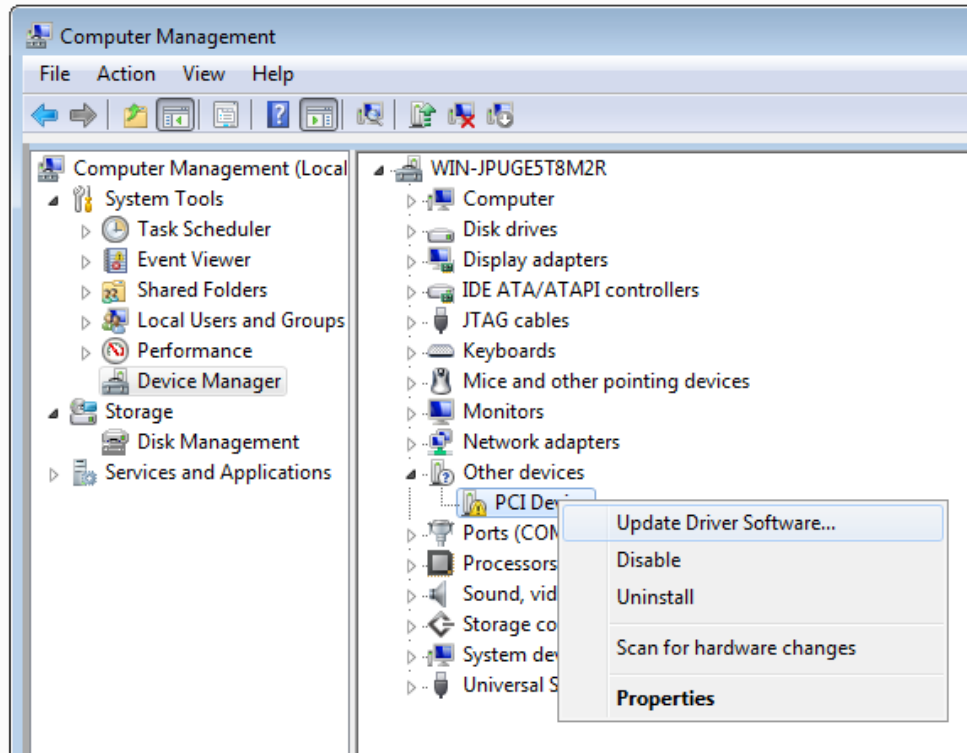

Figure 7-3 Screenshot of launching Update Driver Software... dialog
5. Click the Control Panel menu from Windows Start menu. Click the Hardware and Sound item before clicking the Device Manager to launch the Device Manager dialog. There will be a PCI Device item in the dialog, as shown in **Figure 7-3**, Move the mouse cursor to the PCI Device item and right click it to select the Update Driver Software... items.